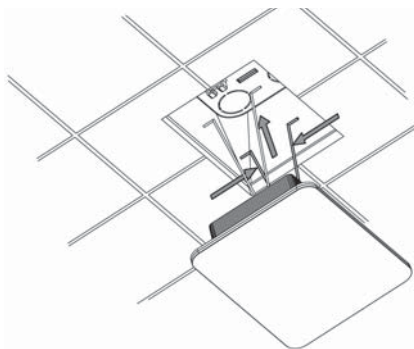

Figure 13
4. Squeeze the retention springs on the back of the fixture and fit them into the junction box (**Figure 13**). Insert the fixture into the junction box and affix it to the ceiling, being careful not to pinch the pigtail/control cable (note that the pigtail/control cable is not shown in **Figure 13**). Press firmly around edges of the fixture to ensure adhesion to ceiling.